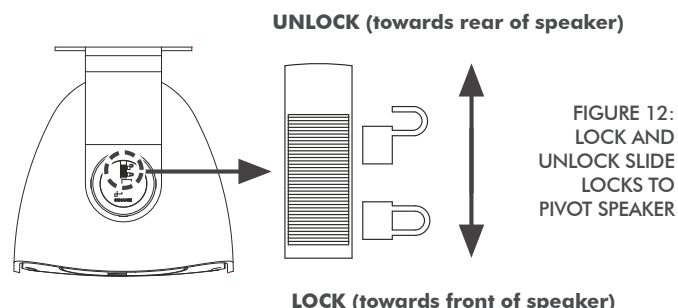

FIGURE 12:
1. Unlock the slide locks on the speaker pivots by moving them towards the rear of the speaker (see figure 12).